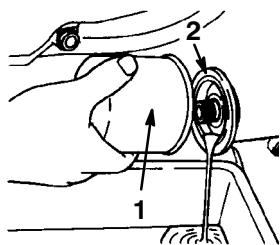

Figure 32
5. Place a suitable drain pan under the oil filter connection (Fig. 32).
8. Install new oil filter by rotating it clockwise until the seal contacts the mounting surface (Fig. 32). Then rotate the oil filter 3/4 turn more by hand.